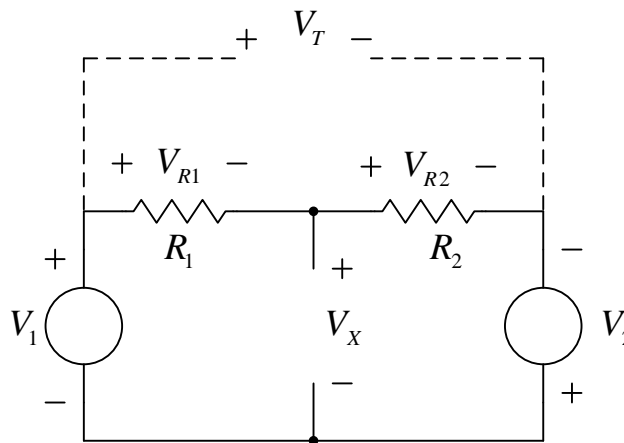

Figure 2
Step 3. Construct the circuit of Figure 2. Use two different resistor values for R_1 and R_2 , and measure the resistor values before connecting them in the circuit. Set V_1 and V_2 to different values. Note carefully the polarity of the voltage sources.
b) Use the DMM as a voltmeter to measure and record the voltages V_T , V_X , V_{R1} , and V_{R2} as labeled in Figure 2.
- **Analysis:** This is an essential section of most experiment reports. In general, this section would be used to provide the theoretical relationship between the independent variables (the “inputs” of the experiment) and the dependent variables (the “outputs” of the experiment). In this experiment, you do not need to show an analysis of the circuit of Figure 2; simply state the equations that will be shown in class.